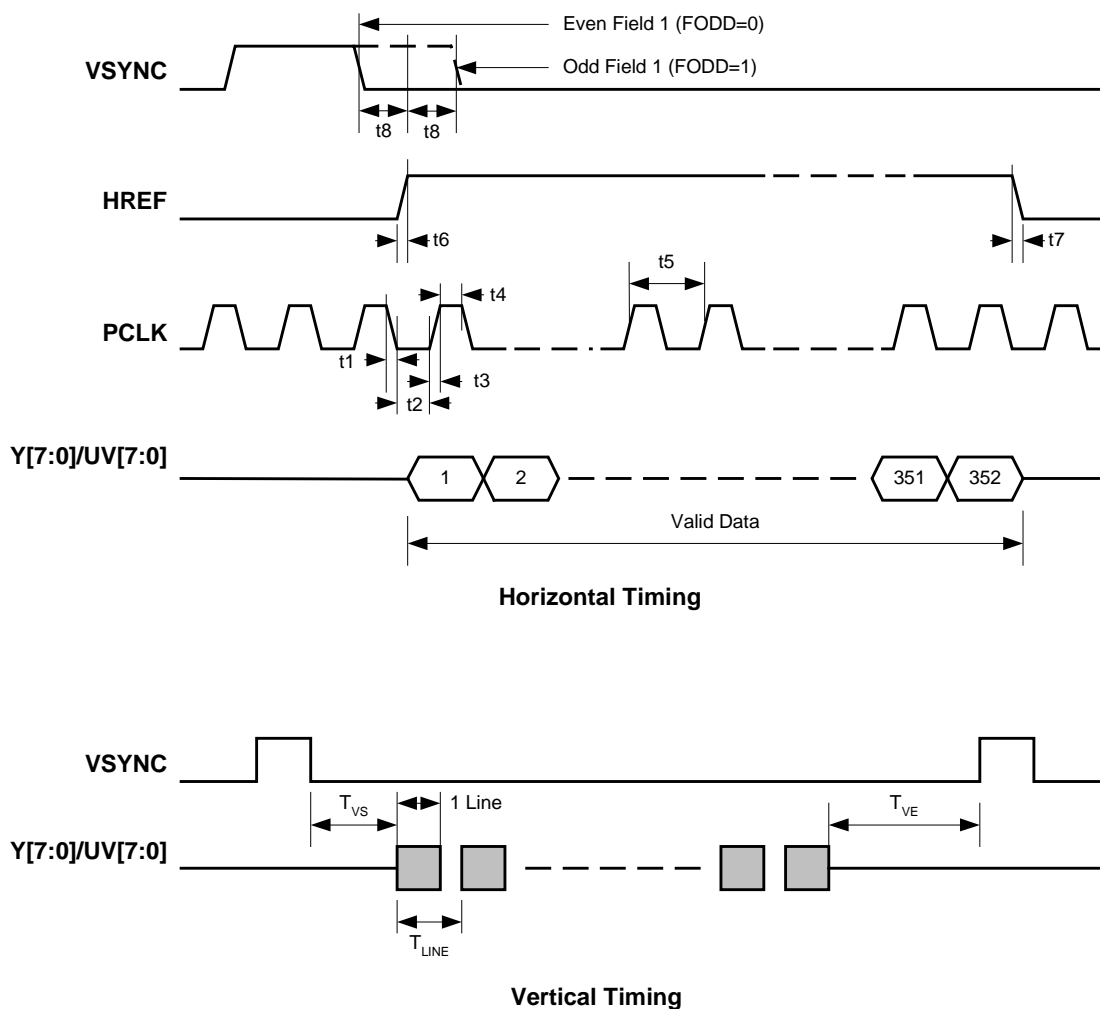

Figure 3. Zoom Video Port Timing
1.2.4 Zoom Video Port (ZV)
The OV6630/OV6130 image sensor includes a Zoom Video (ZV) function that supports standard ZV Port interface timing. Signals available include VSYNC, CHSYNC, PCLK and 16-bit data bus: Y[7:0] and UV[7:0]. The rising edge of PCLK clocks data into the ZV port. See Figure 3. Zoom Video Port Timing below.